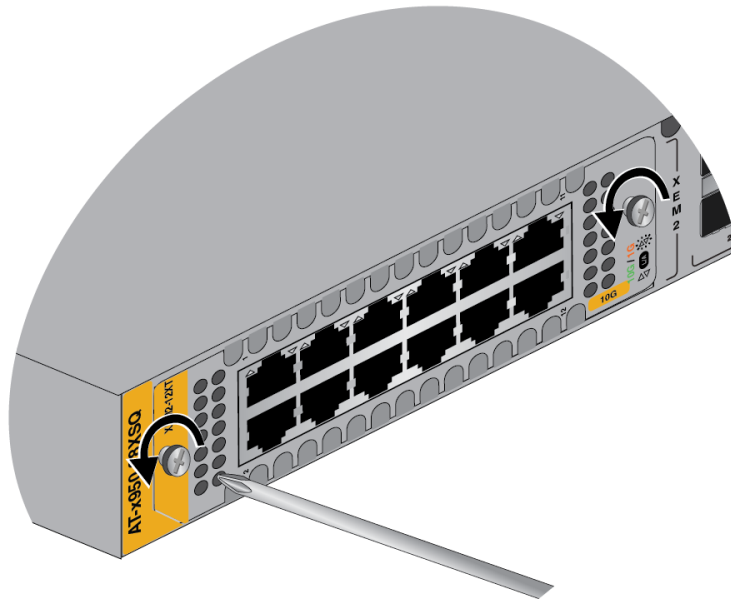

Figure 123. Loosening the Screws on the Ethernet Line Card
4. Use a #2 Phillips-head screwdriver to loosen the two screws on the faceplate of the card. Refer to Figure 123.